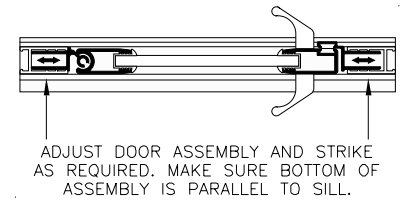
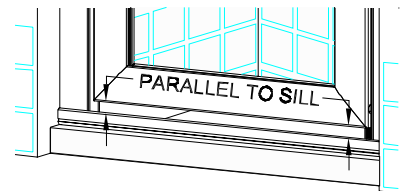

figure 4
figure 5
6. Attach the Door Handles (E) to the Door Assembly using two(2) Door Handle Screws (F) as shown in exploded view - sheet 1.
7. Adjust Door Assembly and Strike Post along curb as required (see figure 4). Note: Bottom of Door Assembly must always remain parallel to Sill in order for door to operate properly (see figure 5). When satisfied with door operation, secure Hinge Post and Strike Post to the vertical posts using 638PHPT Installation Screws (L), see exploded view - sheet 1.